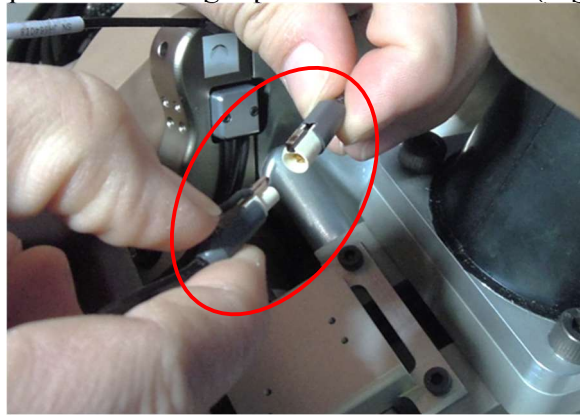

Figure 5-9. Unclip the left and right pressure sensor wires
5.2.3 Unclip the left and right pressure sensor wires (Figure 5-9).